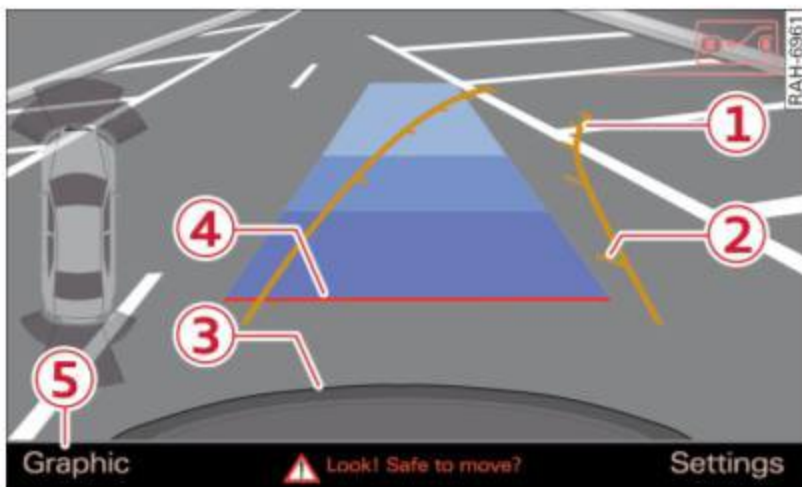

Fig. 119 MMI Display: Aiming at a parking spot
- ▶ Turn the steering wheel until the orange orientation lines ① appear in the parking spot ⇒ *fig. 119*. Use the markings ② to help you estimate the distance from an obstacle. Each marking corresponds to 3 ft (1 m). The blue area represents an extension of the ve-